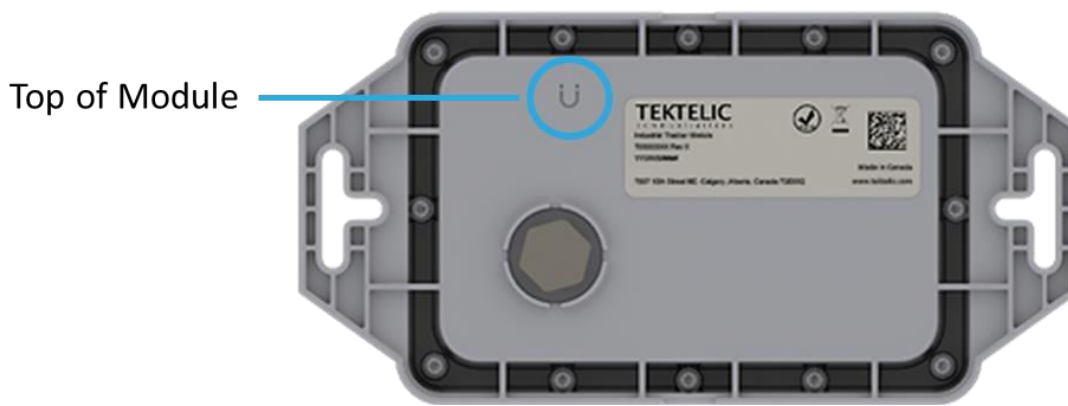

Figure 2-2: The ORCA magnetic activation site.
1. Briefly place the magnet against the enclosure at the magnetic sign as shown in Figure 2-2 for **about 5 seconds** and take away.